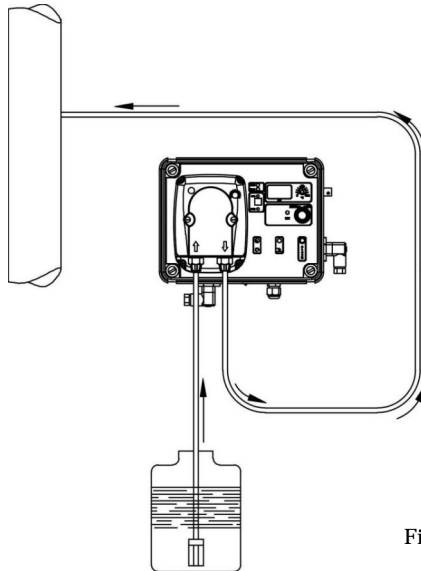

Fig. 3
- c.- Locate the pump as shown in fig. 3 bearing in mind that it may be installed either below or above the level of the liquid to be dosed, though the level difference should not exceed 2 meters. In case of liquids that generate aggressive vapours, do not install the pump above the storage tank unless the latter is hermetically sealed.